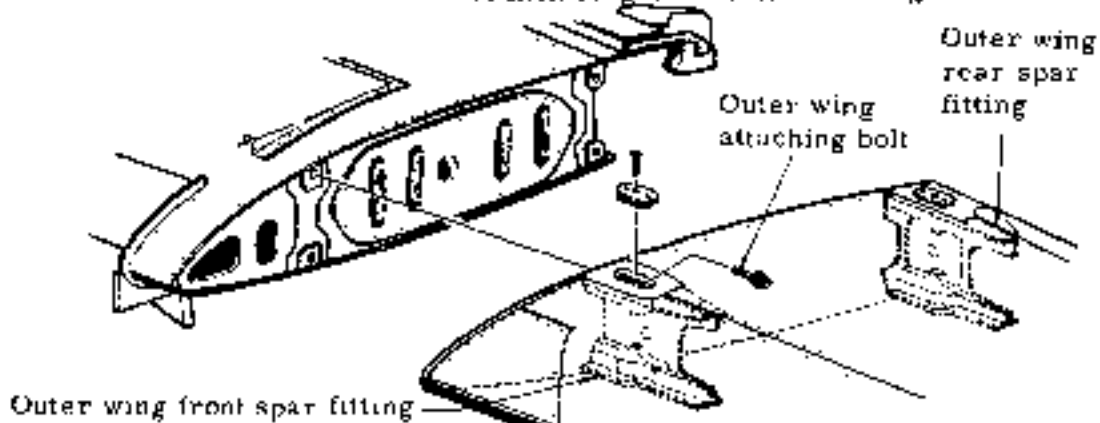

Fig. 3-10 Removal of outer wing
2.3 REMOVAL AND INSTALLATION OF OUTER WING (See Fig. 3-10)